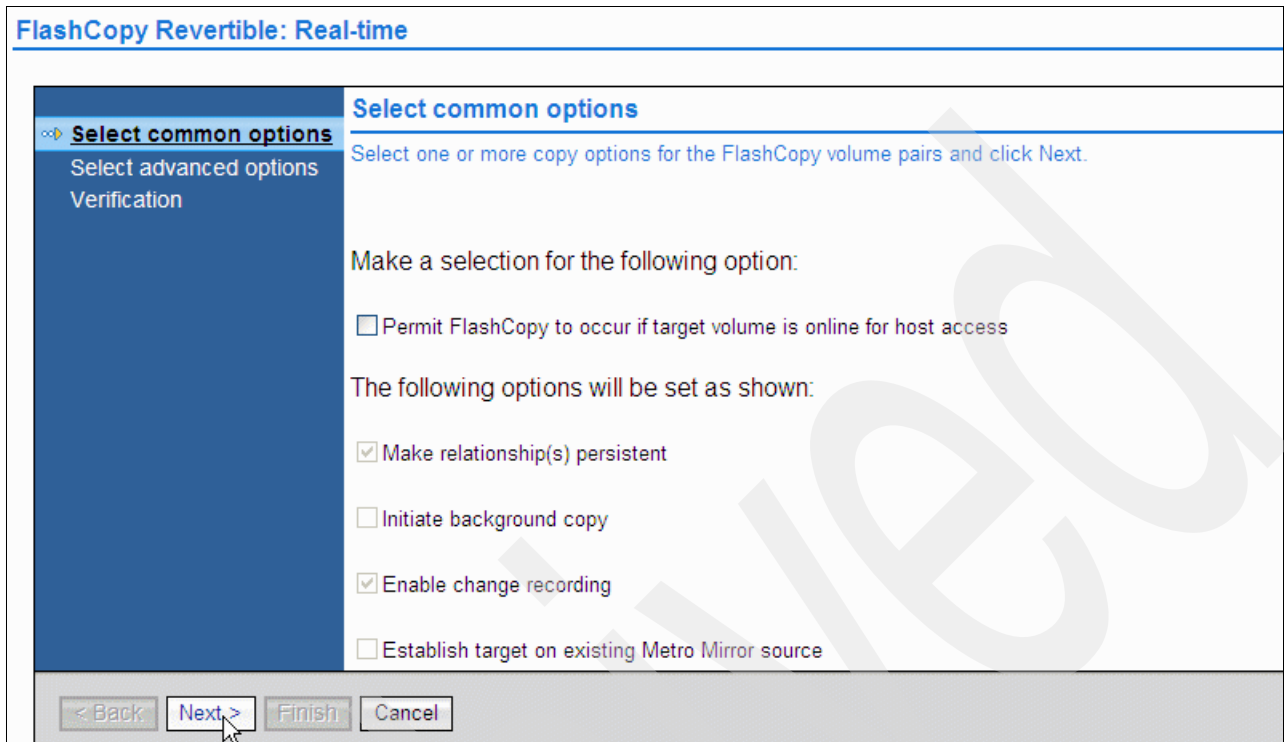

Figure 13-10 Revertible FlashCopy options
2. In the Select common options panel, select the necessary option, and click **Next** to continue, as shown in Figure 13-10.